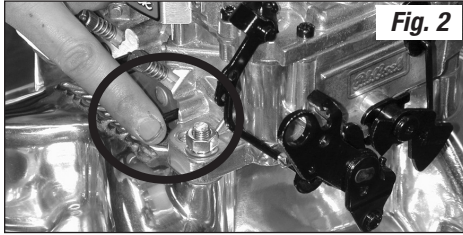

Fig. 2
1. Determine if the distributor vacuum port is timed (no vacuum at idle) or full (vacuum present at idle). With the engine at operating temperature and idling, pull the vacuum advance hose off of the carburetor and “feel” for vacuum by putting your finger on the vacuum port (See Fig. 2). If your distributor has timed vacuum advance, you will hook the vacuum hose from the distributor to the passenger side vacuum port on the new carburetor. If it has full vacuum advance, it will be hooked up to the driver side port.